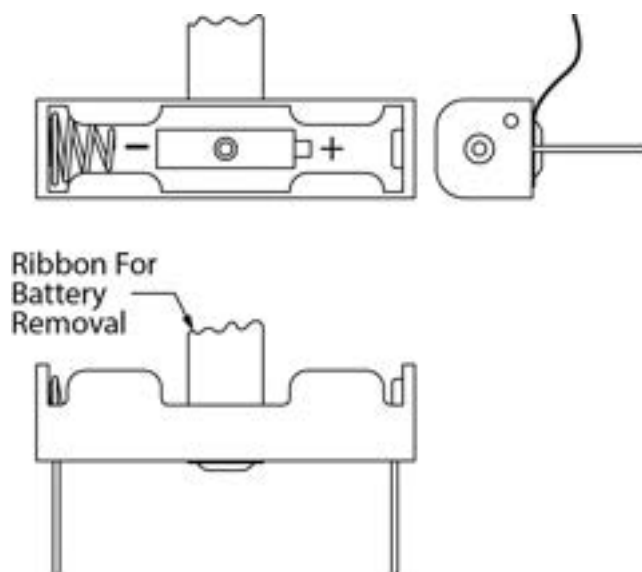

FIG. 15
- Pull up battery retention ribbon located under batteries to unseat batteries as shown in FIG. 15. Dis-
6. Insert the new battery as noted on the battery holder. Press down firmly on the battery. See FIG. 15 to identify the negative and positive sides of the battery.